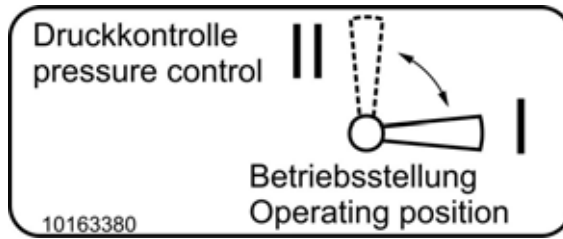
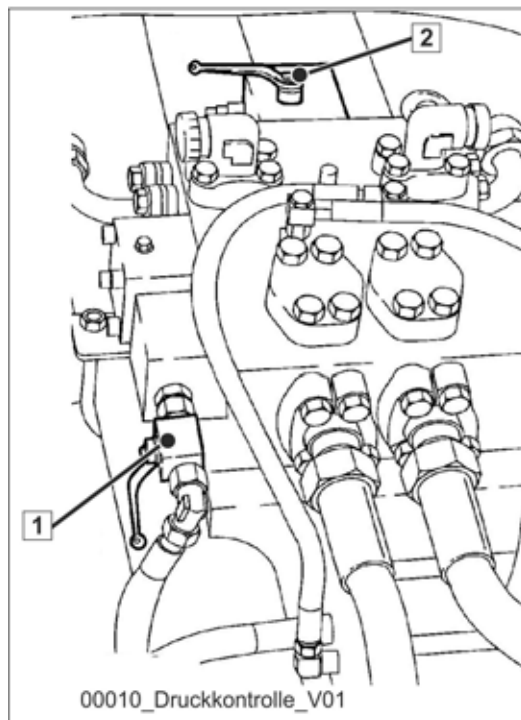

Fig. 313
Fig. 314
- Close the ball valve (1) (**Fig. 314**).
- For machines with MPS, set the ball valve (2) (**Fig. 314**) to position (II): Pressure check (**Fig. 313**).
Working operation is only permitted while ball valve (2) (Fig. 314) is in the operating position (I)!